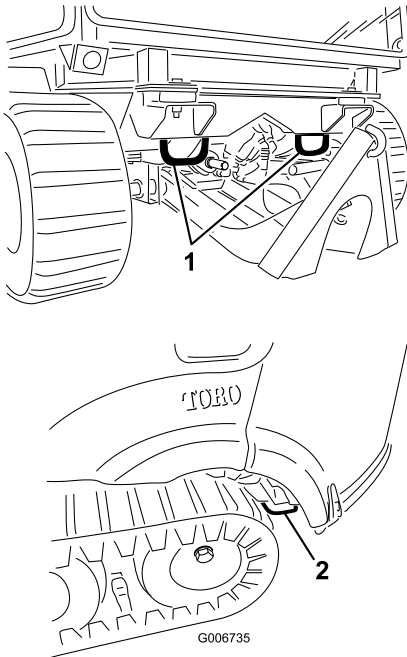

Figure 28
- Securely fasten the machine to the trailer or truck with straps, chains, cable, or ropes as required by local traffic regulations in your area (Figure 28).